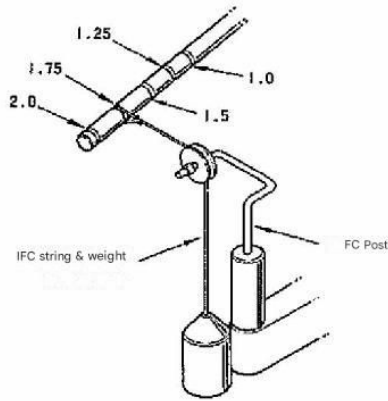

Figure 6
- 1) Assemble the IFC as shown in Figure 6. Attach the string at the position that matches the specified stylus pressure of the cartridge.